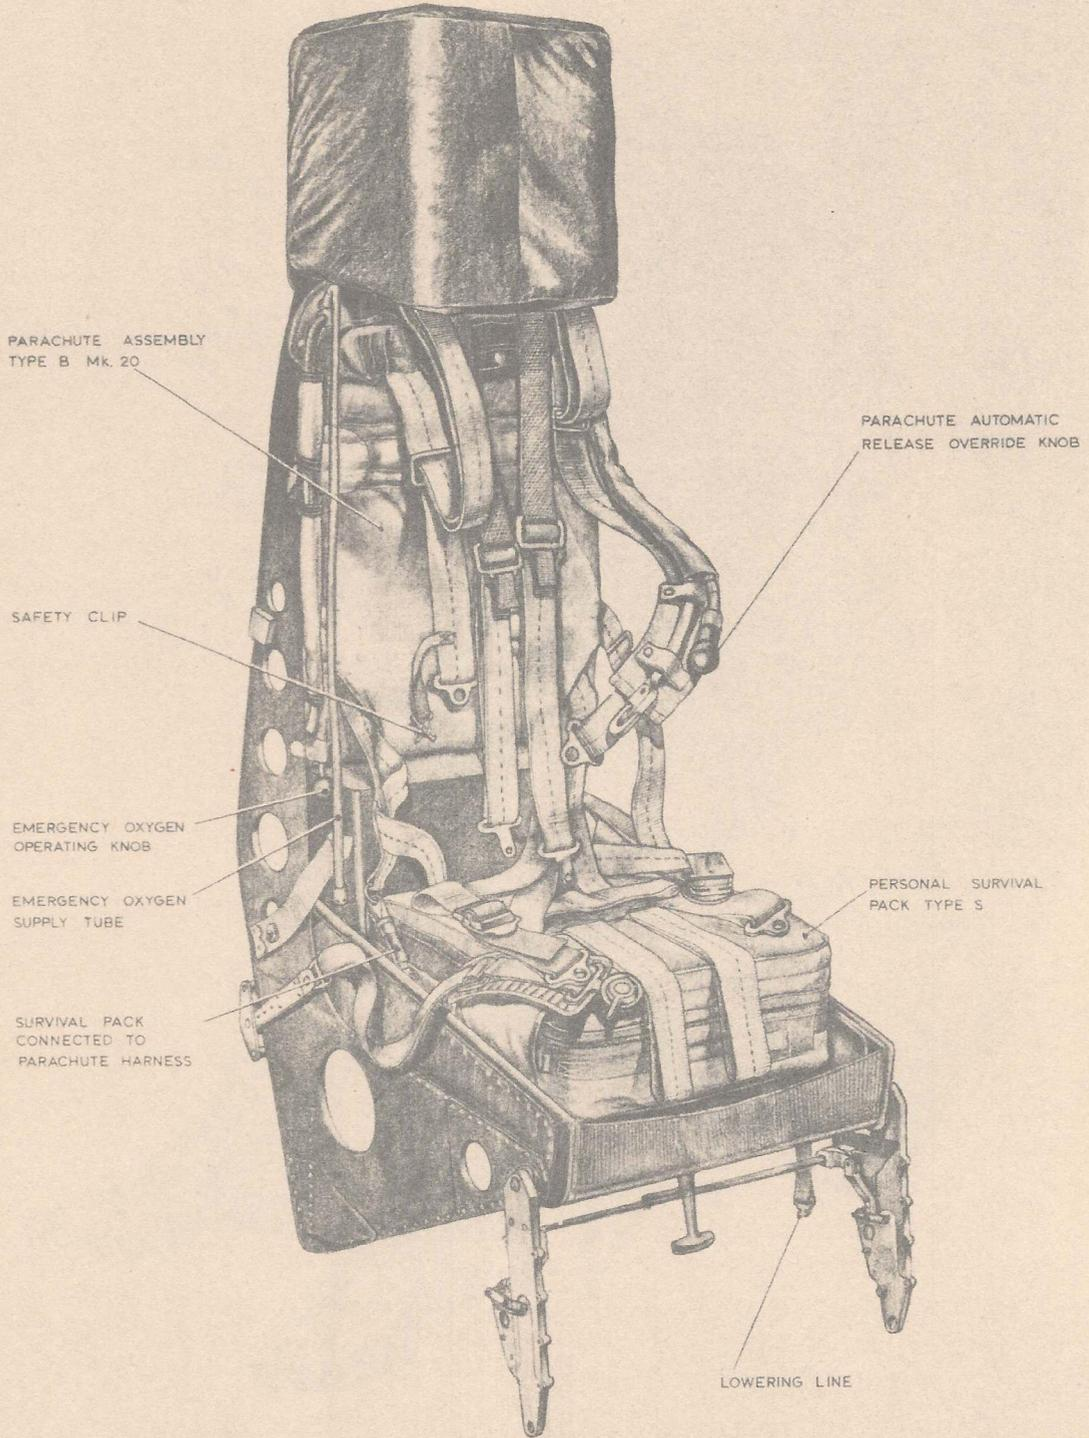

Fig. 7. The static seat equipped
20. To equip each of the static seats proceed as follows (fig. 7):—